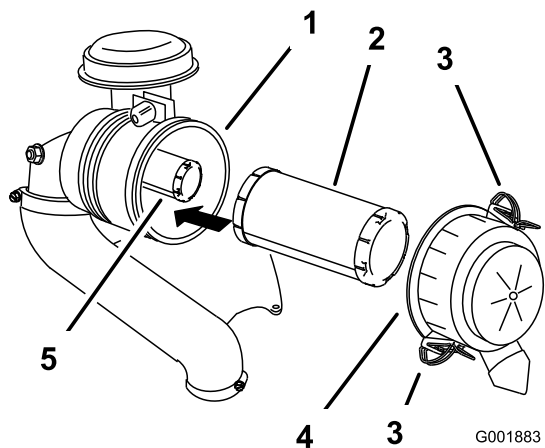

Figure 45
6. Release the latches on the air cleaner and pull the air-cleaner cover off the air-cleaner body (Figure 45).
8. Gently slide the primary filter out of the air-cleaner body (Figure 45).
2. If you are replacing the inner filter, carefully slide it into the filter body (Figure 45).
3. Carefully slide the primary filter over the safety filter (Figure 45).
4. Install the air-cleaner cover and secure the latches (Figure 45).